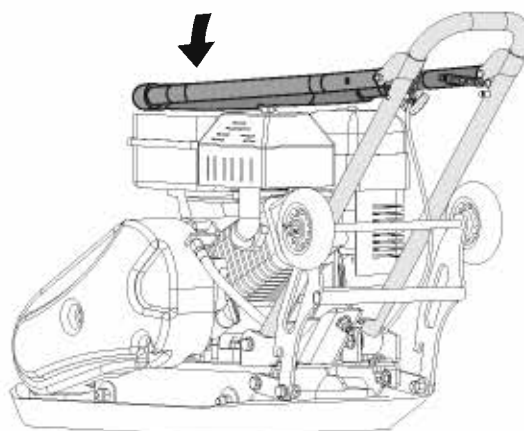

Figure 10
7. Carefully fold the upper handle down. Do not allow control cables to become pinched or bent. (See **Figure 10**)